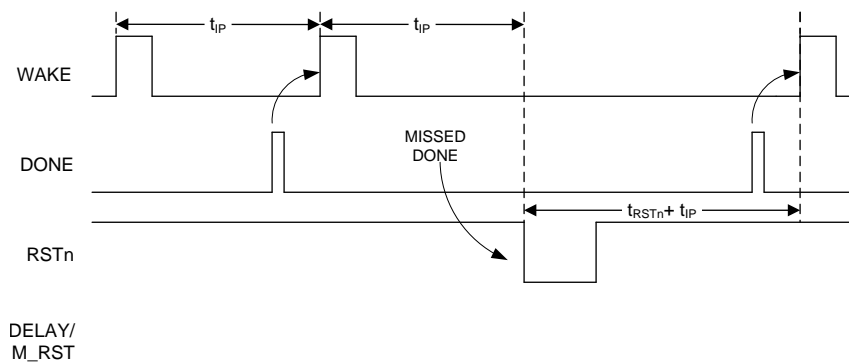
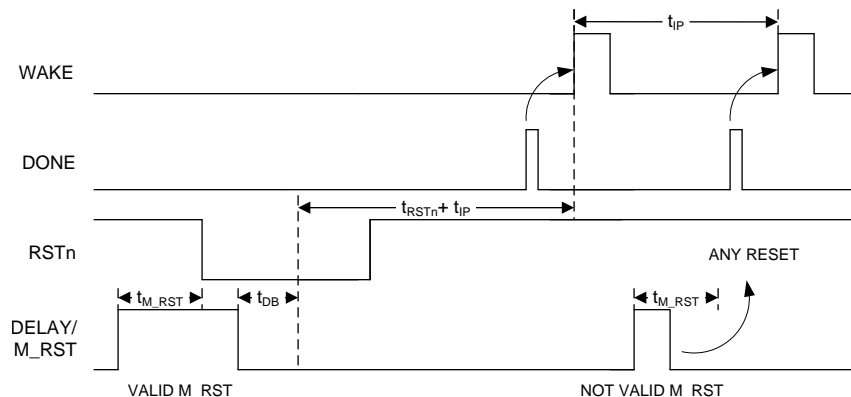

Figure 8. Watchdog
Figure 10. Manual Reset
- 2. At the beginning of a new time interval if DONE is not received at least 20 ms before the next WAKE rising edge (see Figure 8).
During normal operating mode, the TPL5010-Q1 asserts periodic WAKE pulses in response to valid DONE pulses from the μC . If either a manual reset is applied (logic HIGH on DELAY/M_RST pin) or the μC does not issue a DONE pulse within the required time, the TPL5010-Q1 asserts the RSTn signal to the μC and restarts its internal counters. See Figure 8 and Figure 10.